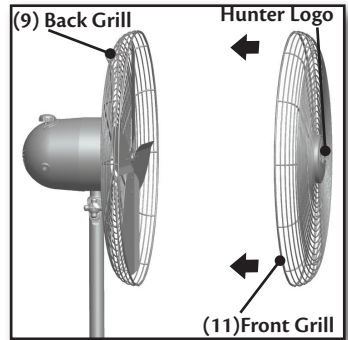

Figure 15.
1. Remove the Grill Ring from the Front Grill(11) by loosening the screw holding it.
2. Place the Front Grill(11) against the Back Grill(9) so the Hunter logo faces right side up and push together until the tabs on the grills hold them together. Figure 15.